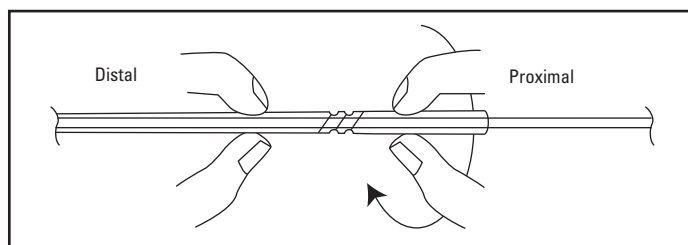

Figure 9. Lock via clockwise rotation
6. Lock the Interlock Fibered IDC Occlusion System into position by gently pinching the introducer sheath on both sides of the twist-lock mechanism and rotating the proximal side clockwise (Figure 9).